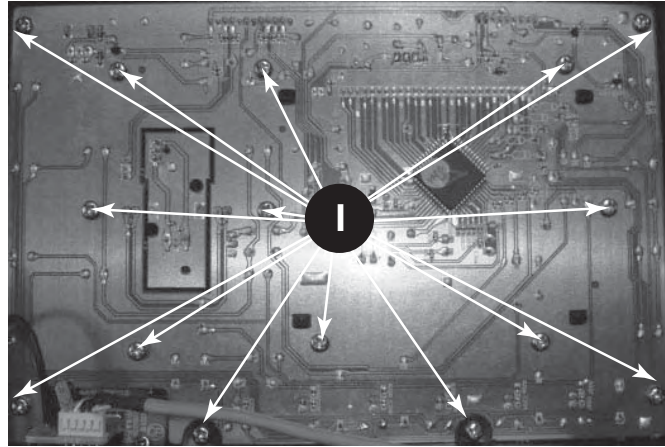

Figure 9
- 1) Loosen 15 screws "I" on the control board as shown in figure 9.